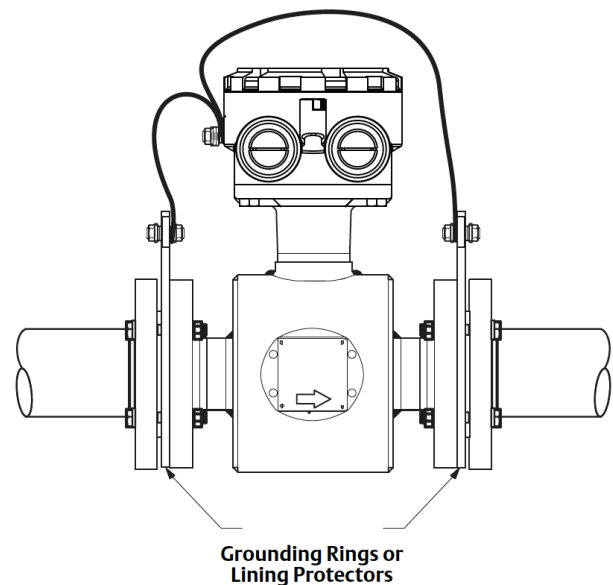

Figure 5. Recommended connection for electrolytic and cathodic protection process applications
3. **Connection specifics:** Ground rings or lining protectors should be connected as shown in Figure 5. It is very important to connect both ground rings to the sensor case to minimize the current flow through the process fluid near the electrodes.
- 3. Connection specifics:** Ground rings or lining protectors should be connected as shown in Figure 5. It is very important to connect both ground rings to the sensor case to minimize the current flow through the process fluid near the electrodes.